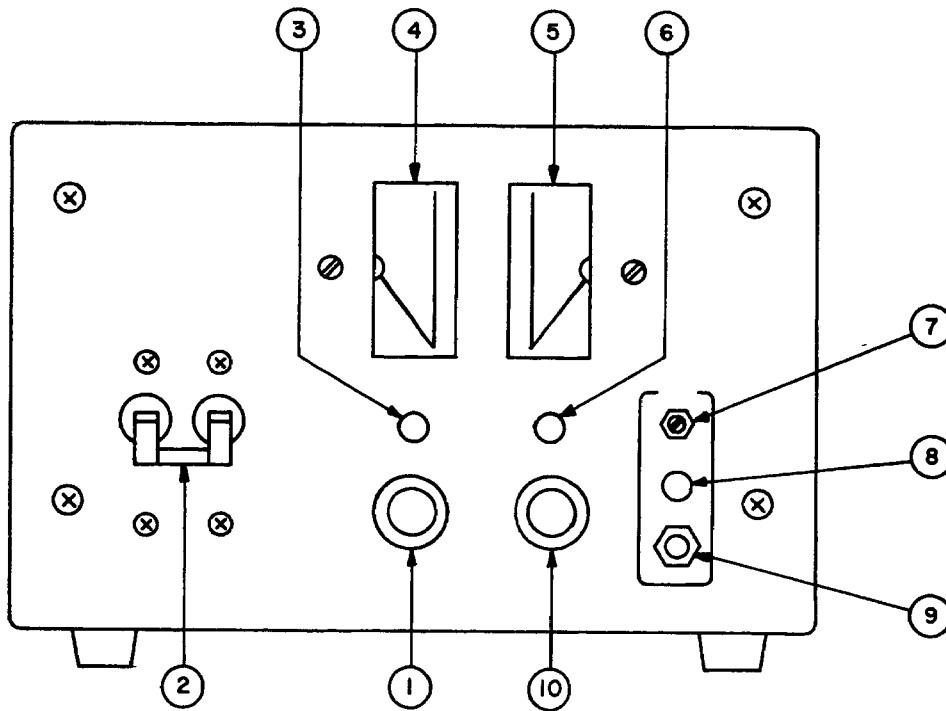

FIG. 2-2 CONTROL AND TERMINATIONS, ATE 1/2 RACK GROUP, FRONT.
- a) FRONT PANEL: Refer to FIG. 2-2 and Table 2-2.
- 2-9 A simple operating check after unpacking and before permanent installation is advisable to ascertain whether the power supply has suffered damage resulting from shipment. Refer to FIG. 2-2 and to FIG. 2-3 for the location of the operating controls and output terminals.
- To reset the adjusted crowbar point, press DISARM button again and advance VOLTAGE CONTROL clockwise. Note voltage at which the CROWBAR INDICATOR lights up. Readjust LEVEL control if necessary, by repeating step (2) and check again by repeating steps (3) and (4).